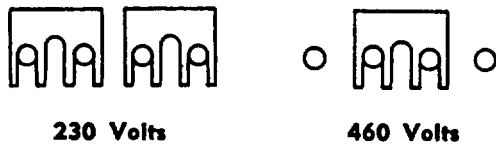
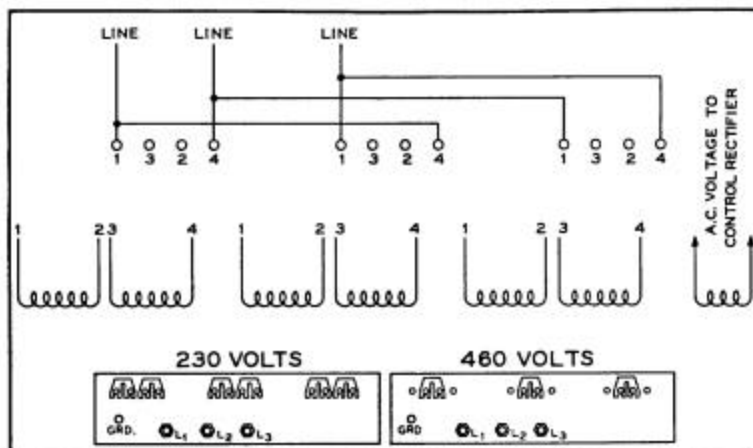

Figure 4- Jumper Link Connections
Figure 5-Primary Voltage Link Arrangement
- c. These welding machines are designed to operate on either 230 volts or 460 volts, three phase, 50/60 cycle a-c power line. Facilities for operation on other primary voltages, if ordered, are incorporated at the factory. To connect the welding machine properly for the voltage available, position the copper links as illustrated in Figure 4 and on the **Primary Voltage Link Arrangement**, Figure 5. Welding machines are shipped with the connections in the highest line voltage position for which the particular machine was built.